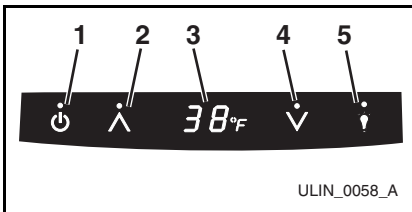

Figure 3
To turn the unit on or off, touch and hold the POWER icon (Figure 3, 1) on the display panel for approximately ten seconds until the °F symbol flashes and release.
- The display (Figure 3, 3) will show the unit set-point temperature (38°F) when the unit is on and will show OFF when the unit is off.
The LIGHT icon (**Figure 3, 5**) on the control panel is used to control an additional lighting function. The blackout/Sabbath mode (not Star K certified) will turn the interior light and display (**Figure 3, 3**) off.
1. Touch and hold the LIGHT icon (**Figure 3, 5**) for ten seconds and release (the °F symbol will flash briefly at the end of the five second period).
2. The interior light and control display (**Figure 3, 3**) will go dark for 36 hours.